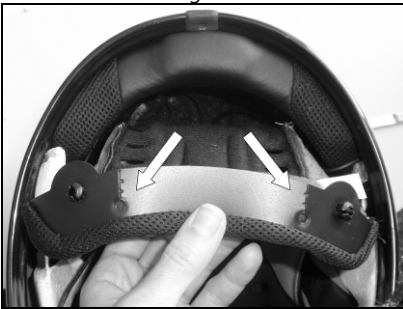

Fig. 22
- Cut along the pre-cut lines of the plastic tab on the back of the comfort padding (Fig. 22).